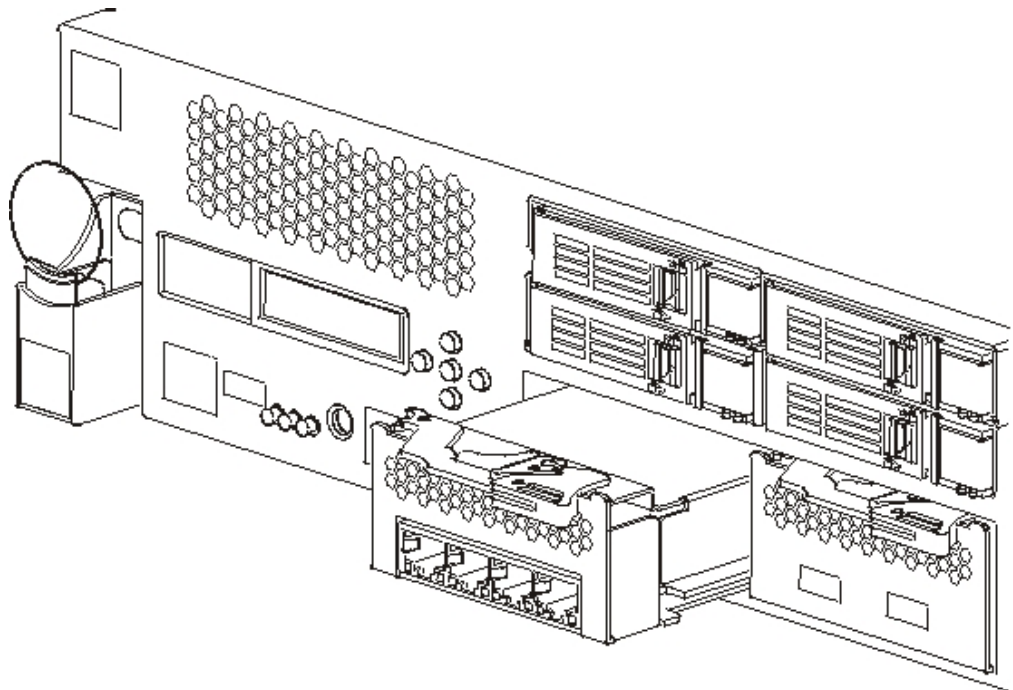

Figure 18. Removing an Ethernet module
- Pull the lever toward you to pull out the Ethernet modules, as shown in Figure 18.